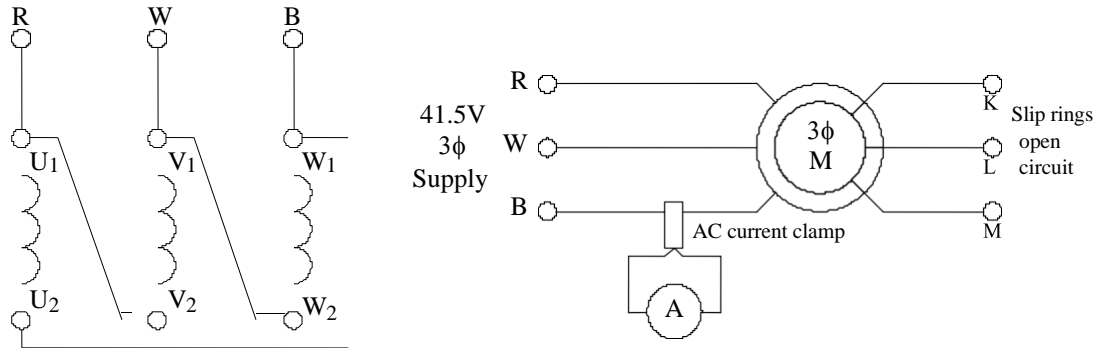

Figure 1
1. Connect the motor in delta as shown in figure 1, with the slip-rings open circuit.